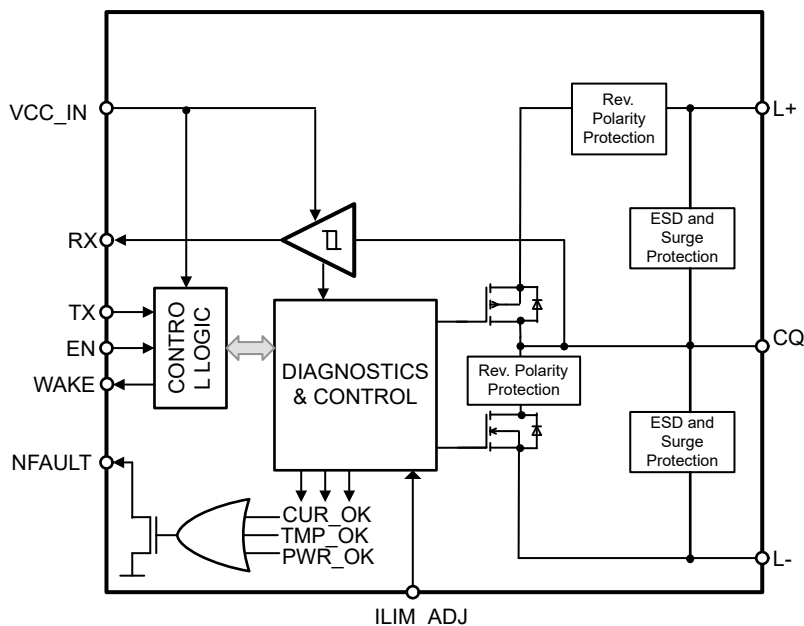

Figure 8-1. Block Diagram TIOL112
Figure 8-1 shows that the TIOL112 or TIOL112x driver output (CQ) can be used in either push-pull, high-side, or low-side configuration using the enable (EN) and transmit data (TX) input pins. The internal receiver converts the 24-V signal on the CQ line to standard logic levels on the receive data (RX) pin. A simple parallel interface is used to receive/transmit data and status information between the device and the local controller.